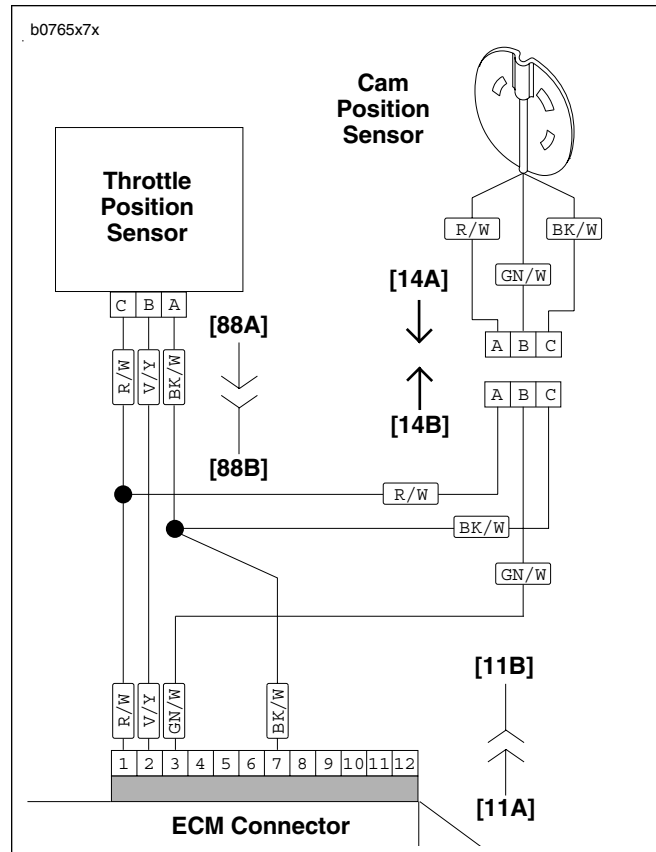

Figure 4-69. Connecting Sensor Wires
2. Install trigger rotor (16).
- a. Apply LOCTITE 243 (blue) to threads of bolt (17).
- b. Position trigger rotor (16) onto end of camshaft aligning notch with camshaft slot.
3. Install cam position sensor (18) and timer plate studs (4). Rotate cam position sensor to its previously marked position to obtain approximate ignition timing.
5. See Figure 4-69. Install sensor wiring terminals into correct positions in plug end of connector [14]. R/W, GN/W and BK/W wires of plug end (from cam position sensor) must match same color wires in receptacle end of connector (from ignition module wiring harness). Install pin terminals. See B.2 DEUTSCH ELECTRICAL CONNECTORS under B.1 AMP MULTILOCK ELECTRICAL CONNECTORS.